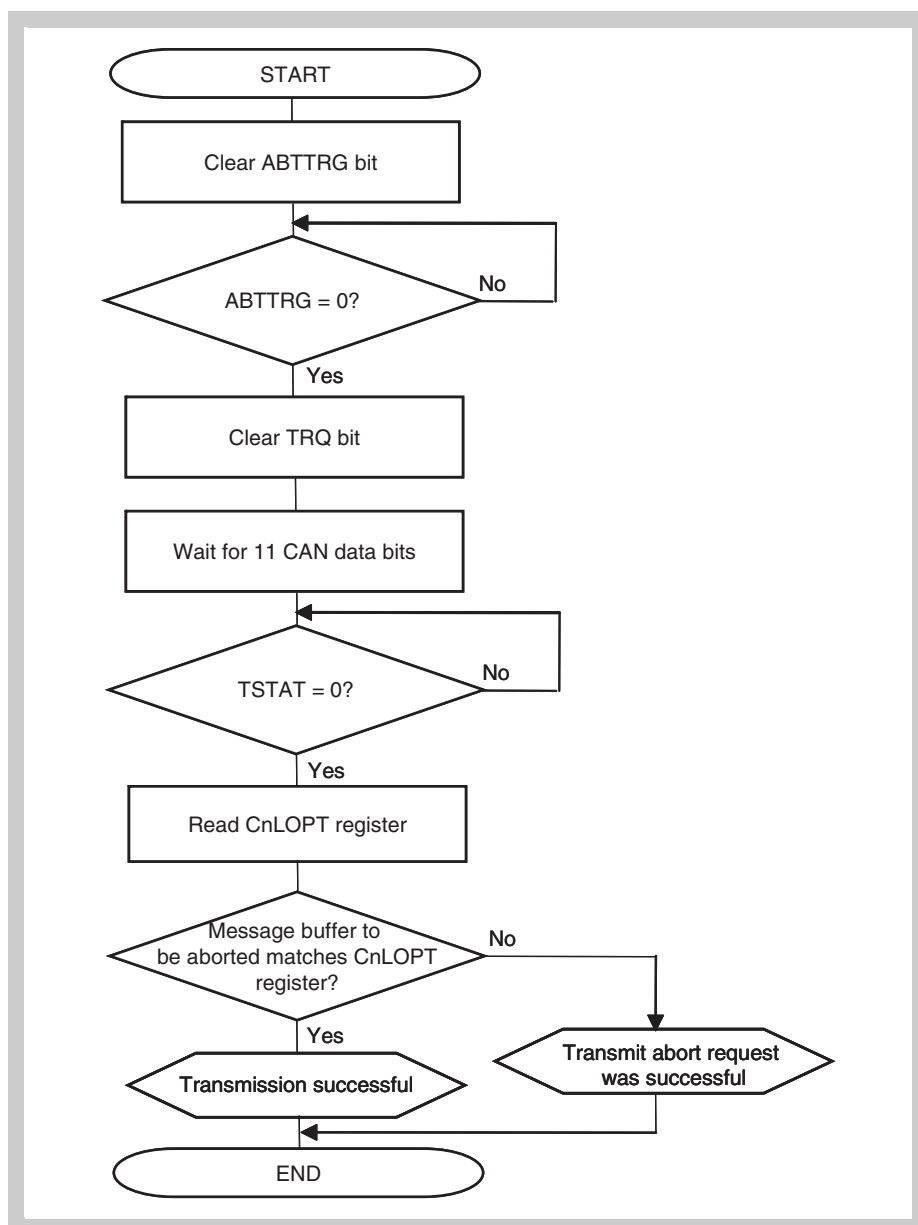
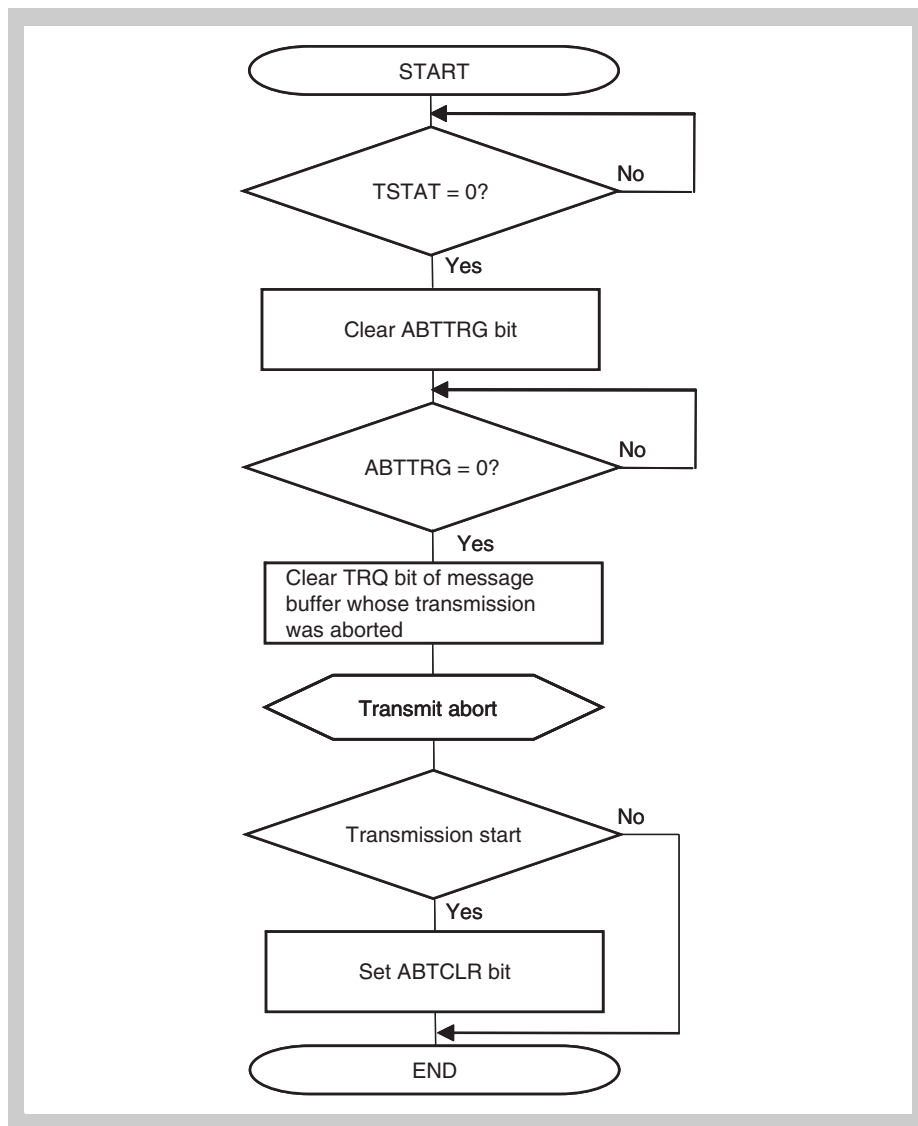

**Figure 20-45** Transmission abort processing (except normal operation mode with ABT)
Figure 20-47 Transmission abort processing (normal operation mode with ABT)
Figure 20-47 shows the processing to skip resumption of transmitting a message that was stopped when transmission of an ABT message buffer was aborted.
2. Make a CAN sleep mode/CAN stop mode transition request after the ABTTRG bit is cleared (after ABT mode is aborted) following the procedure shown in *Figure 20-47* or *Figure 20-48*. When clearing a transmission request in an area other than the ABT area, follow the procedure shown in *Figure 20-45* on page 801.
2. Make a CAN sleep mode/CAN stop mode request after the ABTTRG bit is cleared (after ABT mode is stopped) following the procedure shown in *Figure 20-47* or *Figure 20-48*. When clearing a transmission request in an area other than the ABT area, follow the procedure shown in *Figure 20-45* on page 801.
**Caution** To abort transmission before making a request for the CAN sleep mode, perform processing according to *Figure 20-45 on page 801* and *Figure 20-47 on page 803*.